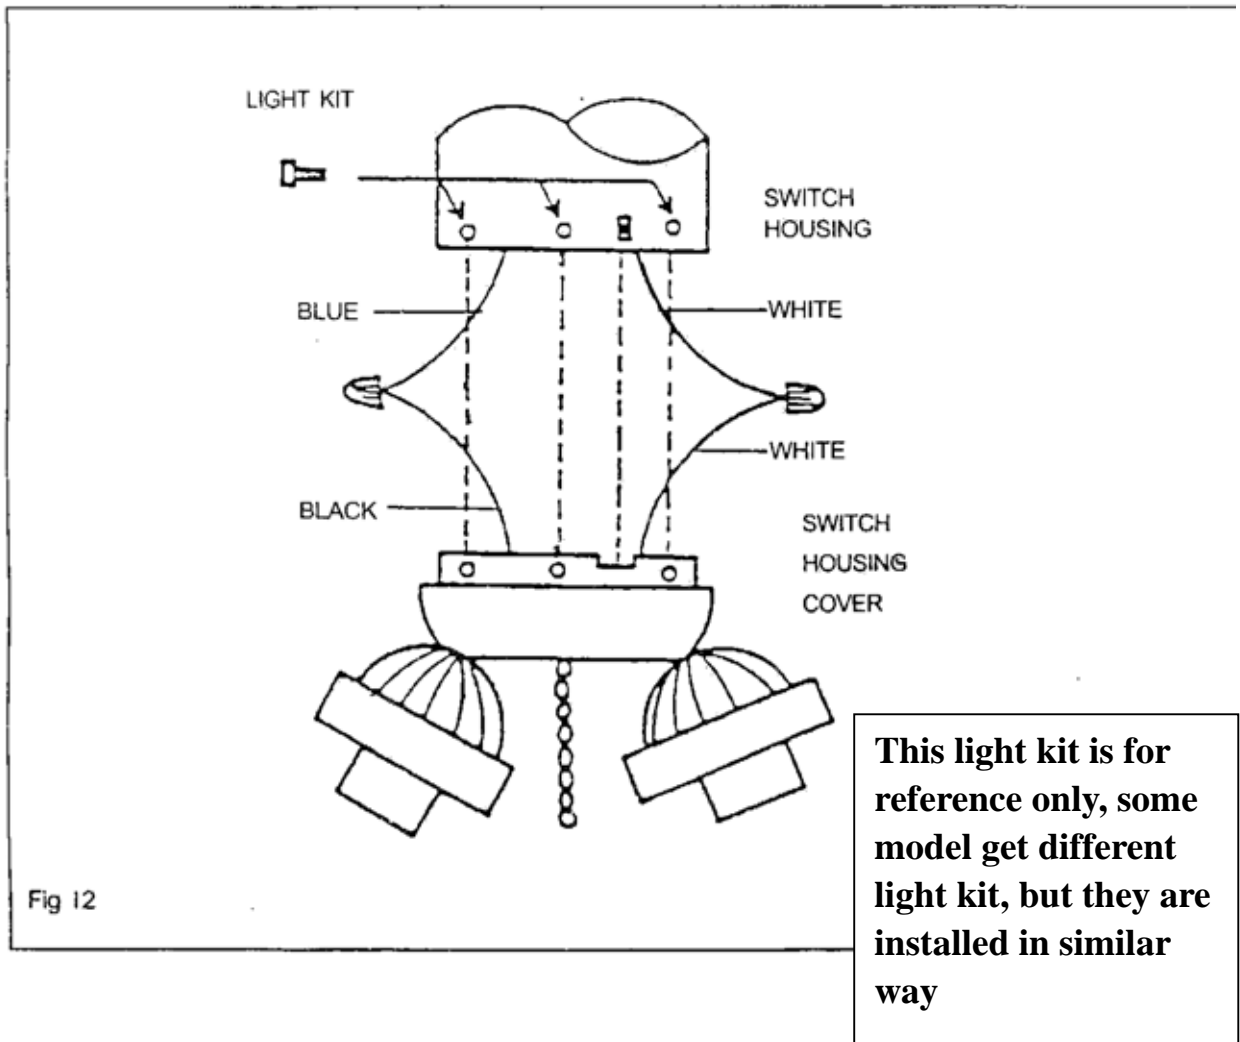

Fig 12
2. Connect them to the light kit wire connectors (Fig. 12)